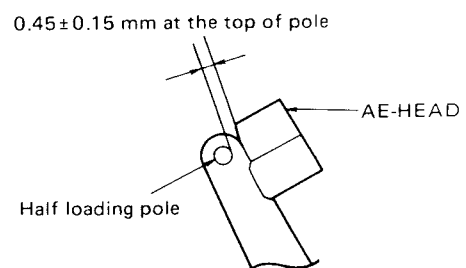

Fig. 4-10
- 2) Loosen the set screw ⑥ so that PLATE-HL-1 can be moved.
- 3) Adjust the taper screw ⑦ so that the gap between the half loading pole and AE-HEAD shall be 0.45 ± 0.15 mm at the top of the pole. (Fig. 4-10).
- 4) Tighten the set screw ⑥. After tightening, check again if the gap is 0.45 ± 0.15 mm. If not, loosen the set screw ⑥ and adjust the gap again.
- 5) On completion of adjustment, lock the taper screw ⑦ and the set screw ⑥ with a locking compound.